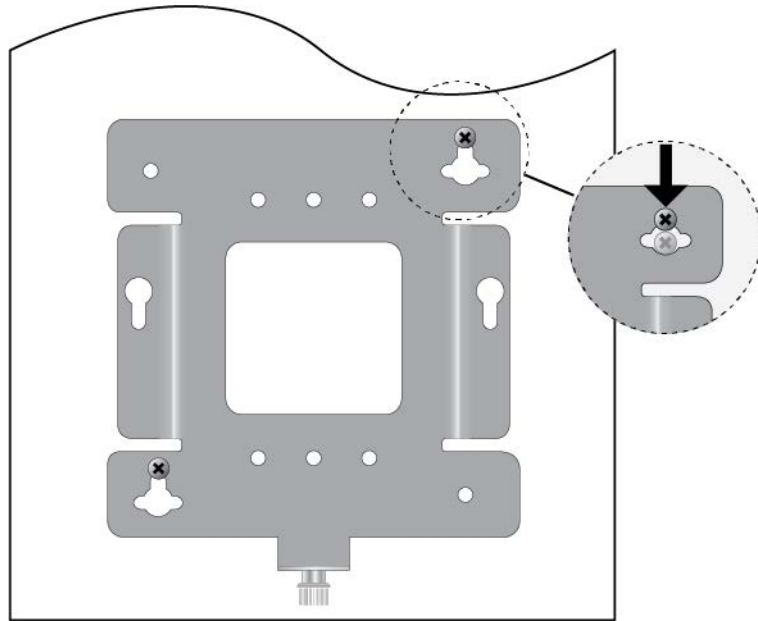

Figure 18. Installing the Mount Bracket On the Screws
6. Insert the openings of the bracket key-hole slots under the two screw heads and slide the bracket into the narrow end of the key-hole slot openings. See Figure 18.